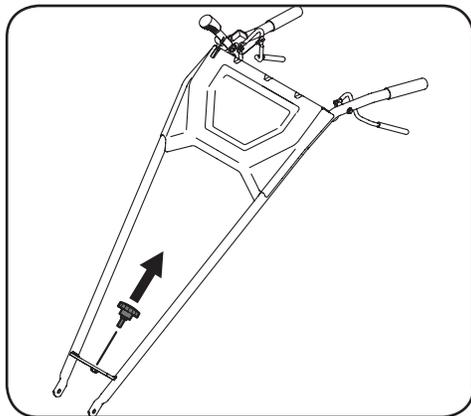

Figure 3-1
1. Remove the knob from the center of the lower end of the handle by rotating it counter-clockwise. See Figure 3-1.